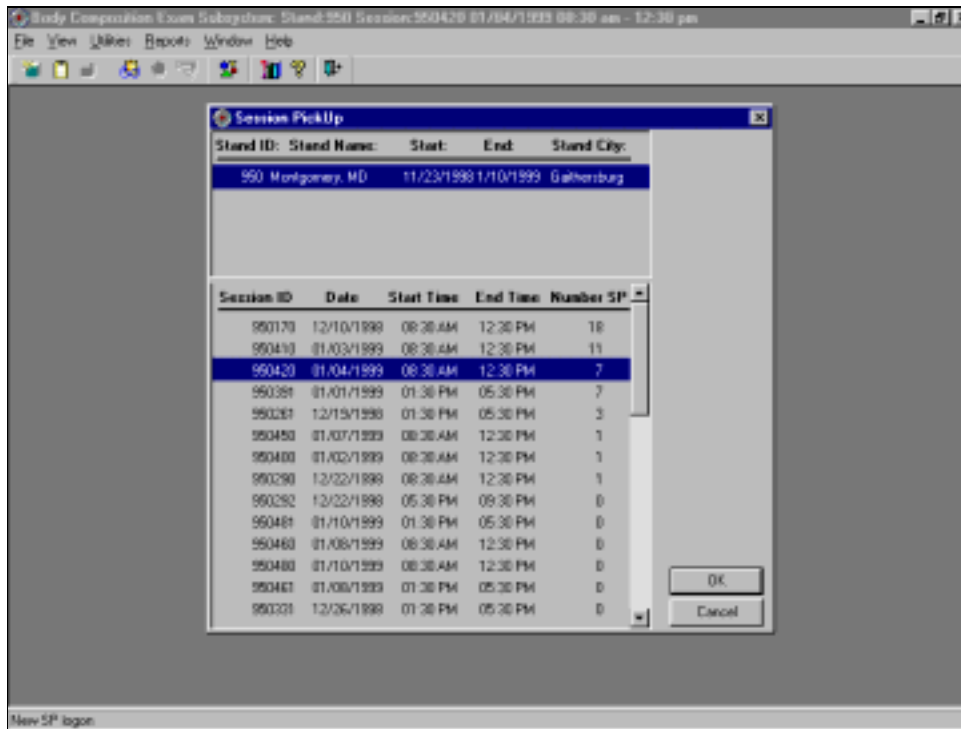

Figure 4-41. Session preview
- The list of SP's in the current session is displayed. The SP identification number, the type (primary, guest, replicate), name, age, gender, special considerations, and comments are displayed (Figure 4-41).